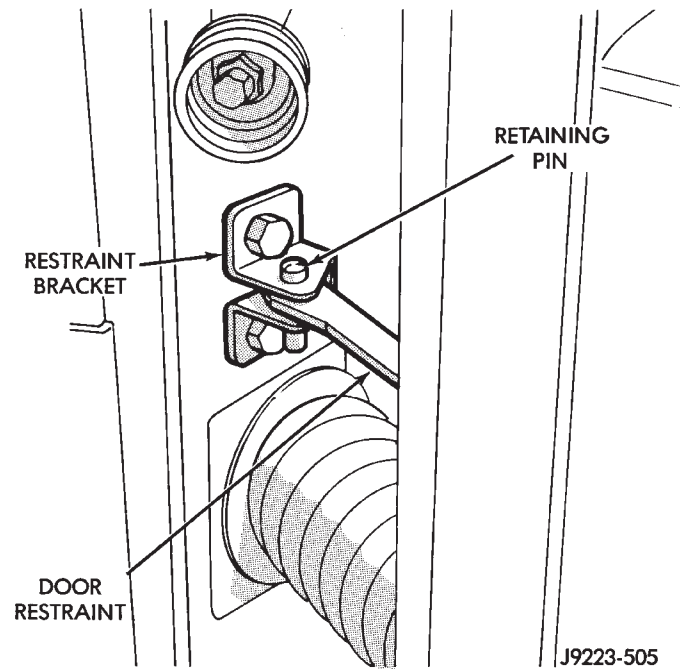

Fig. 37 Door Restraint (Check) Retaining Pin
- (1) Remove the door trim panel.
- (2) Front door: remove the door radio speaker from door inner panel.
- (3) Remove the door restraint (check) retaining pin from the bracket with a punch (Fig. 37).
- (4) Remove the nuts and remove the restraint via the speaker opening (front door) or access opening (rear door) in the door inner panel.
- (1) Position the door restraint in the door by way of the opening and install the nuts. Tighten the nuts to 10 N·m (7 ft-lbs) torque.
- (2) Position the door restraint in bracket with the holes aligned and insert the retaining pin (Fig. 37).
- (3) Front door: install the radio speaker and door trim panel.
- (4) Rear door: install the door trim panel.